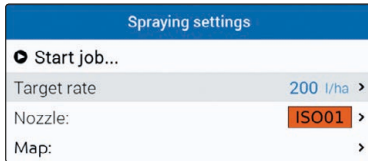

Fig. 259
- Set the spray rate value for the spraying (Fig. 259). Press **OK** to confirm the set value.